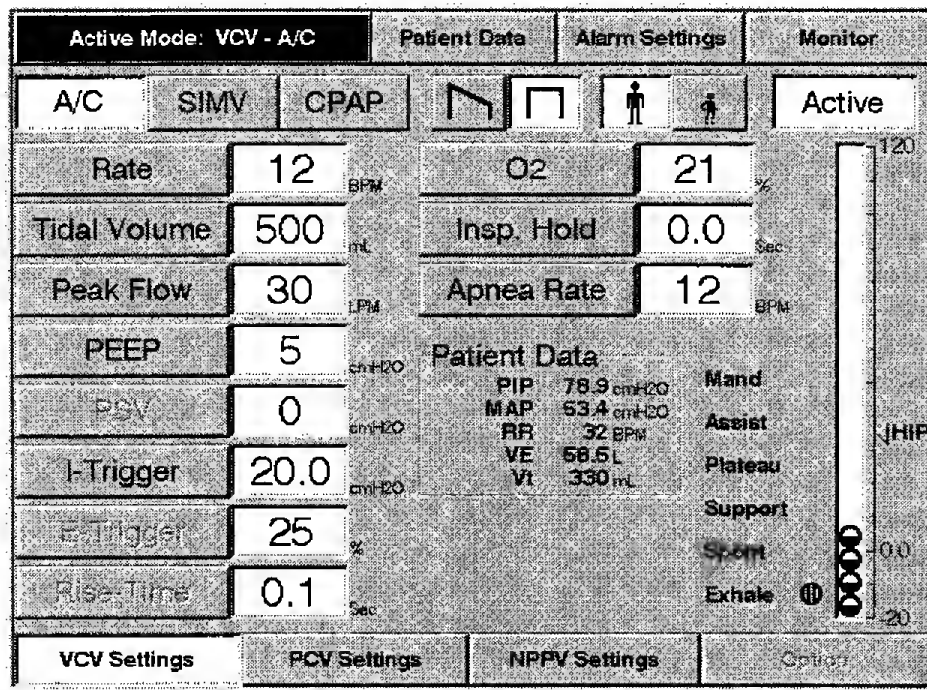
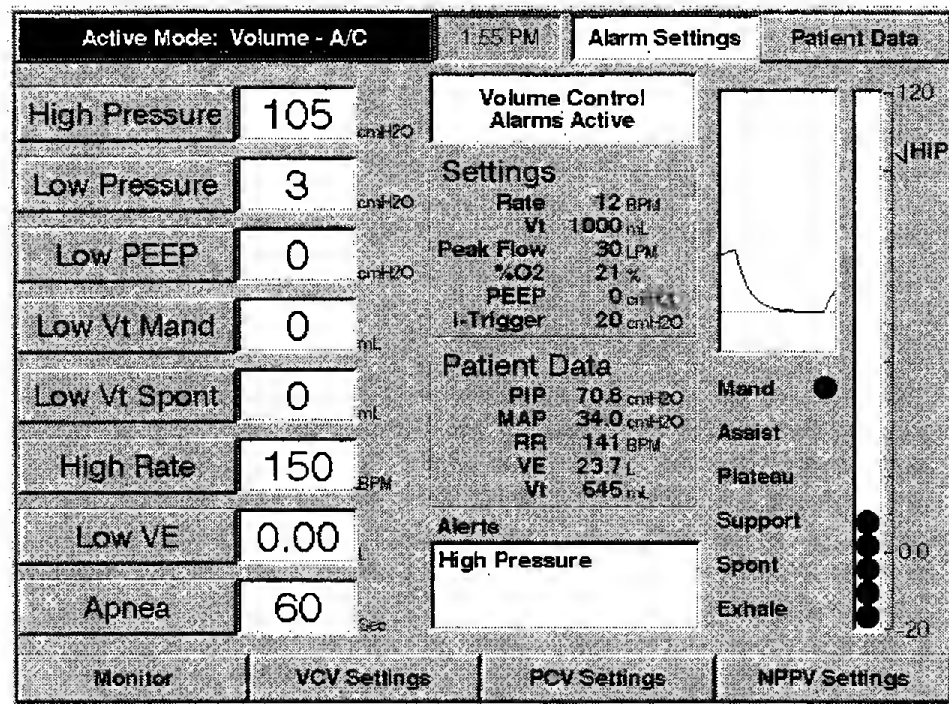

Figure 6-3: Ventilator Parameter Settings
Figure 6-4: Alarm Limit Settings
2. Configure the ventilator per Figure 6-3 and Figure 6-4.
1. Configure the ventilator per Figure 6-3 and Figure 6-4.
4. Configure the ventilator per Figure 6-3 and Figure 6-4.